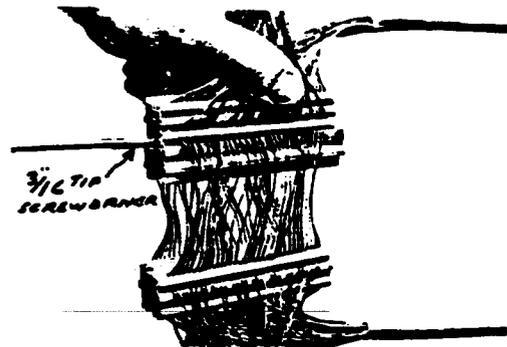

FIG. 59 REMOVING CUTTER
6.26 Use a screwdriver to remove the cutter, by twisting the tip in the end slot. See Fig. 59.